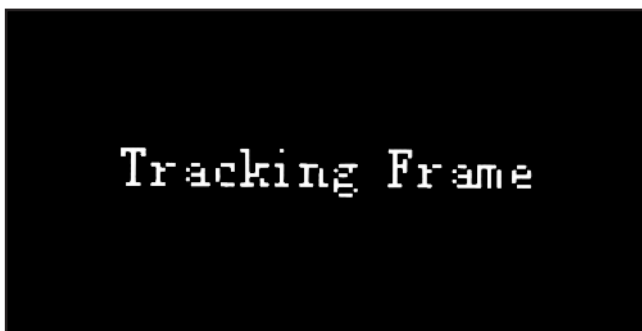

Figure 62. "Tracking Frame" displayed.
6. Press Enter and observe perimeter of tool-paths being traced by laser head movement. Verify display shows "Tracking Frame" during operation (see **Figure 62**).